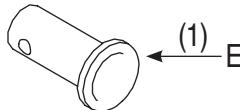
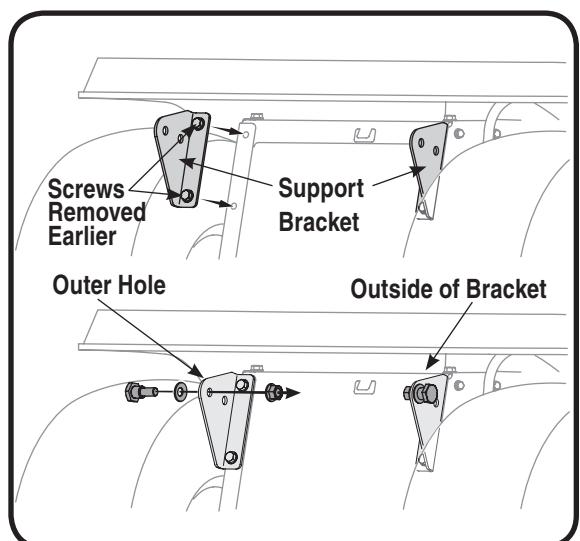
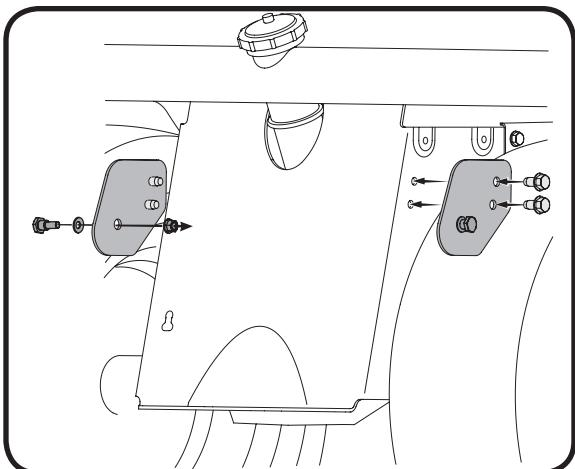

Figure 4
Figure 8
Figure 13
2. Place the right hand grass catcher support bracket (F1 from Figure 4), in position, with the wide end on top and the narrow end pointing down as shown in Figure 8.
3. Secure the support bracket to the tractor frame with two self-tapping screws earlier removed. Refer to Figure 8. Repeat on the other side using part F2 from Figure 4.
4. Insert a shoulder bolt (C in Figure 4) through a bell washer, (B in Figure 4) and insert the bolt from the outside of the bracket through the outer hole on the support bracket. Secure with a nut (A in Figure 4). See Figure 8 for details. Repeat on other side.
NOTE: *For some tractor models, this clevis pin is too large. Use a smaller clevis pin (E in Figure 4) in its place with the same hairpin clip.*
- Locate the four self-tapping screws supplied in your hardware pack (D from Figure 4). Attach one of the grass catcher support brackets (F3 from Figure 4) using two of the supplied screws in position as shown in Figure 13. Place the other grass catcher support bracket (F3 from Figure 4) in position and secure with the other two screws.
- Insert a shoulder bolt (C in Figure 4) through a bell washer, (B in Figure 4) and insert the bolt through the remaining hole from the outside of the support bracket. Secure with a nut (A in Figure 4). See Figure 13 for details. Repeat on other side.